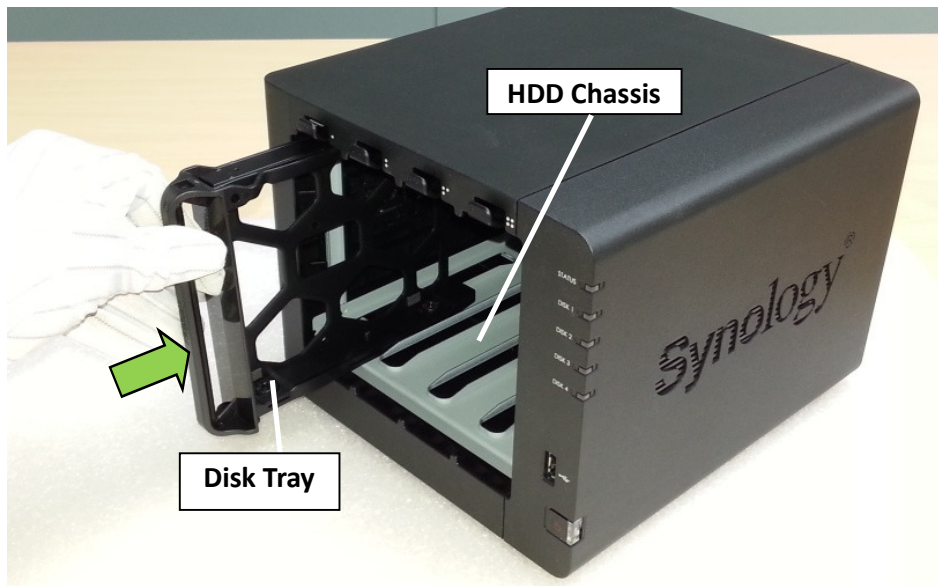

Fig. 42
2.2.13 Restore all the disk trays into the HDD chassis. (Fig. 42)